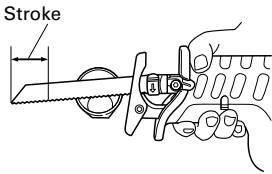
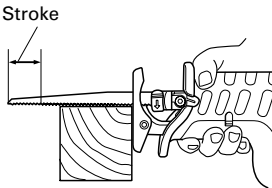

Fig. 15
Fig. 17
- Select a saw blade of the most appropriate length. Ideally, the length protruding from the base of the saw blade after subtracting the stroke quantity should be larger than the material (see **Fig. 15** and **Fig. 17**).